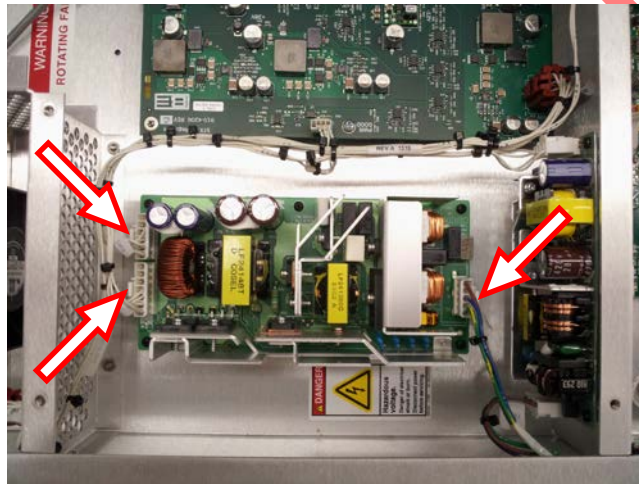

Figure 19 – Main Power Supply Cable Removal
1. Start by unlatching and pulling three cable plugs. To unlatch the cables, pinch the top of the connector at the points indicated in Figure 19.